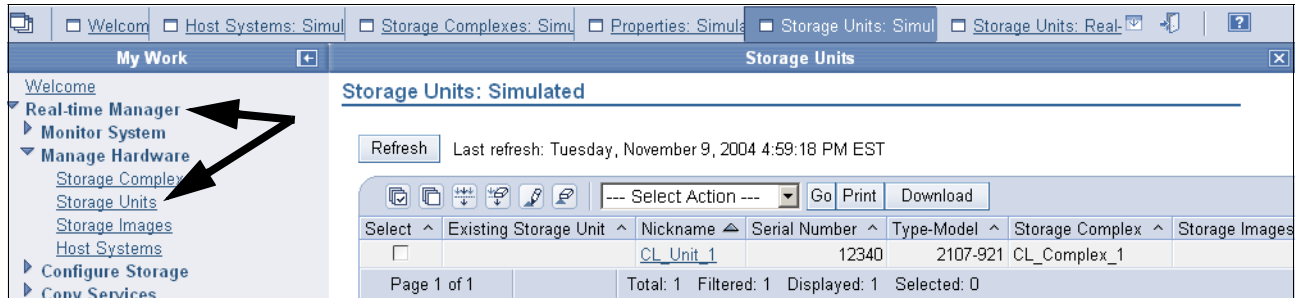

Figure 10-47 The Real-time Manager panel
1. Click **Real-time Manager** as shown in Figure 10-47.